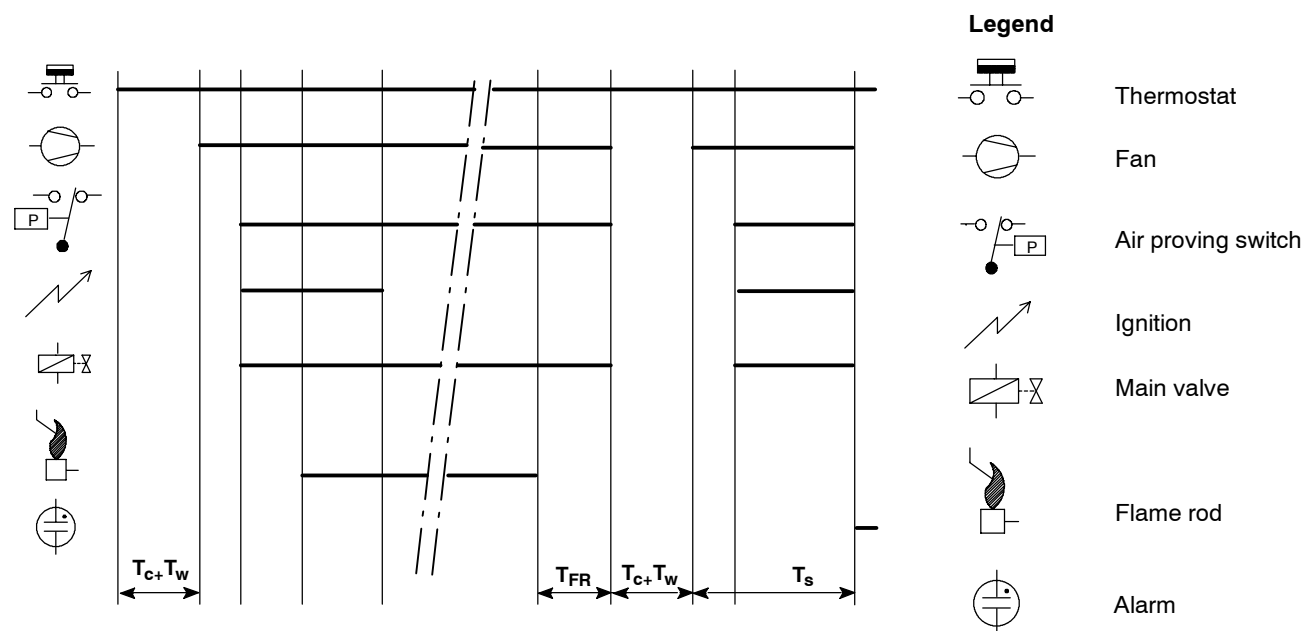

Fig. 39. Functional diagram S4565CF, RF
**Suffix CF and RF (see fig. 39.)**